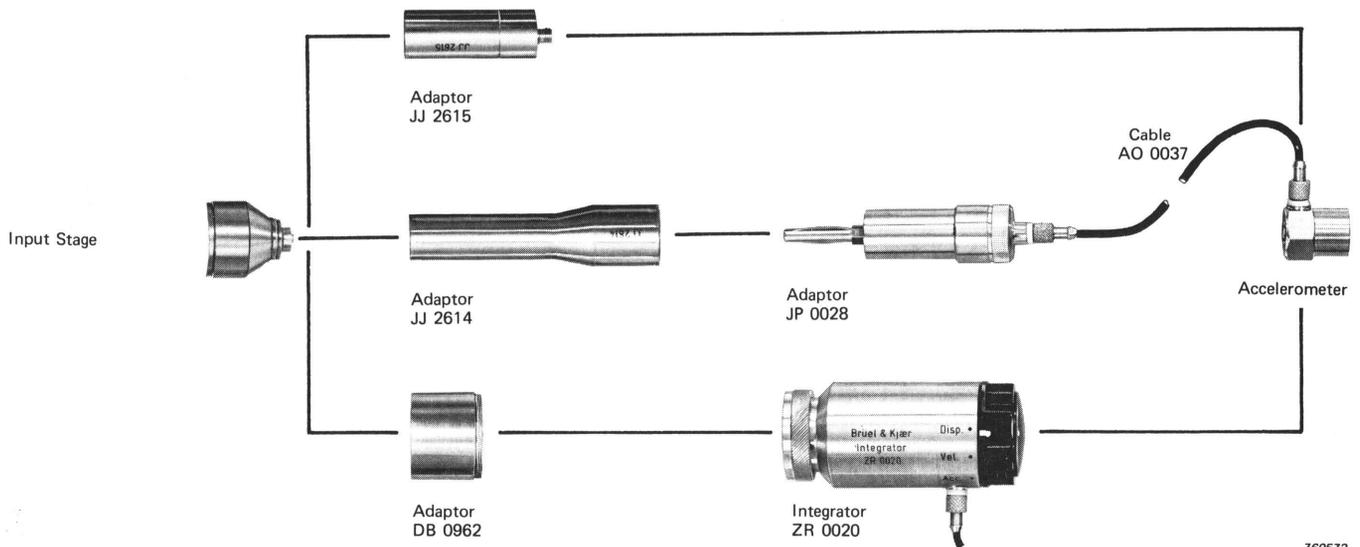

Fig.3.3. Connection of accelerometer
The Sound Level Meter Type 2203 may also be used to measure vibration levels by using one of the adaptors or the Integrator ZR 0020 shown in Fig.3.3. Full details of the ZR 0020 may be found on its Product Data Sheet. Using the adaptors, acceleration only can be measured; if the Integrator is used, acceleration, velocity, and displacement are all available. The meter reading (in dB) may be simply converted to vibration units ( $\text{ms}^{-2}$ ,  $\text{ms}^{-1}$ , m, in metric units or g, in  $\text{s}^{-1}$ , in, in Imperial units) using the circular Slide Rule QH 0001 provided with the Integrator.
1. Mount the accelerometer on the 4291 (see the 4291 Instruction Manual), and connect it to the 2203 using one of the methods shown in Fig.3.3. If an Integrator is used, set it to the required position ("Acc.", "Vel.", or "Disp.").
5. Note the attenuator setting inside the red lines, and add 10 dB. This gives the zero reference value in dB (Z) corresponding to 1 g RMS, or any of the following vibration reference amplitudes (R) (which are equivalent to 1 g RMS at 79,6 Hz) to which the 2203 is now calibrated depending on the Integrator setting:
1. Connect the accelerometer to the 2203 using one of the methods shown in Fig.3.3. If an integrator is used, set it to the required position ("Acc.", "Vel.", or "Disp.").